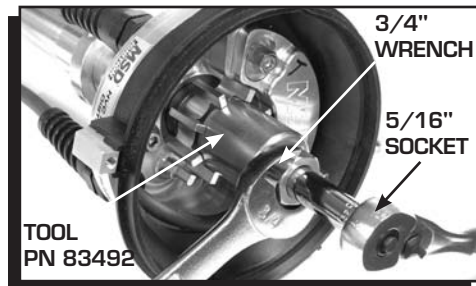

Figure 7 Removing the Reluctor.
2. Remove the reluctor. Use the installation/removal tool PN 83492 to prevent the shaft from turning (Figure 7). Remove the reluctor attaching bolt using a 5/16", 12pt deepwell socket.
15. Install reluctor using special tool PN 83492. Apply moly lube to the nut and torque to 10 lb-ft. (Figure 7).